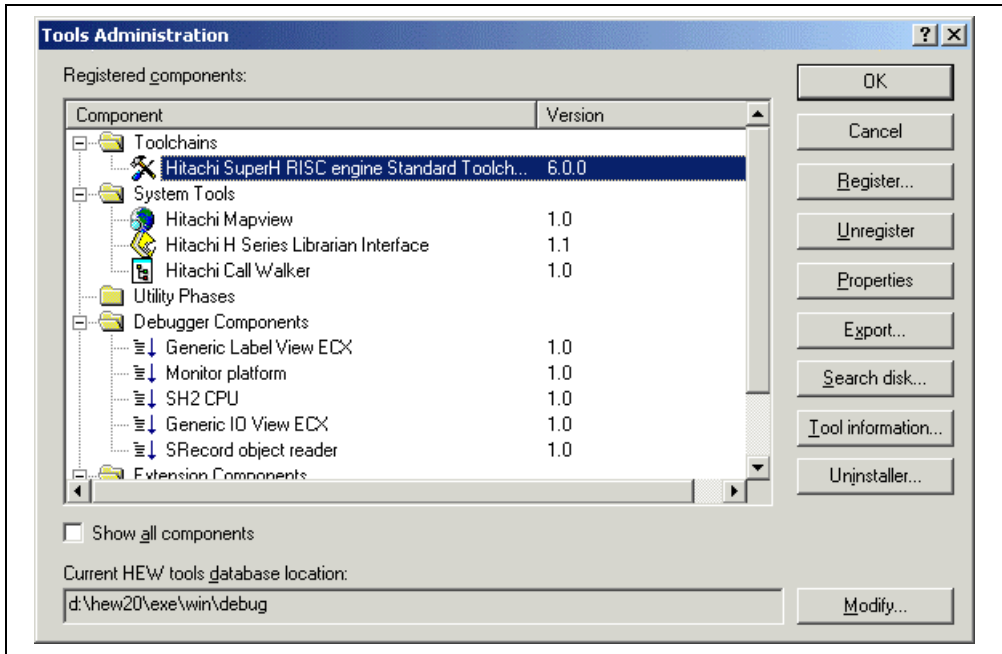
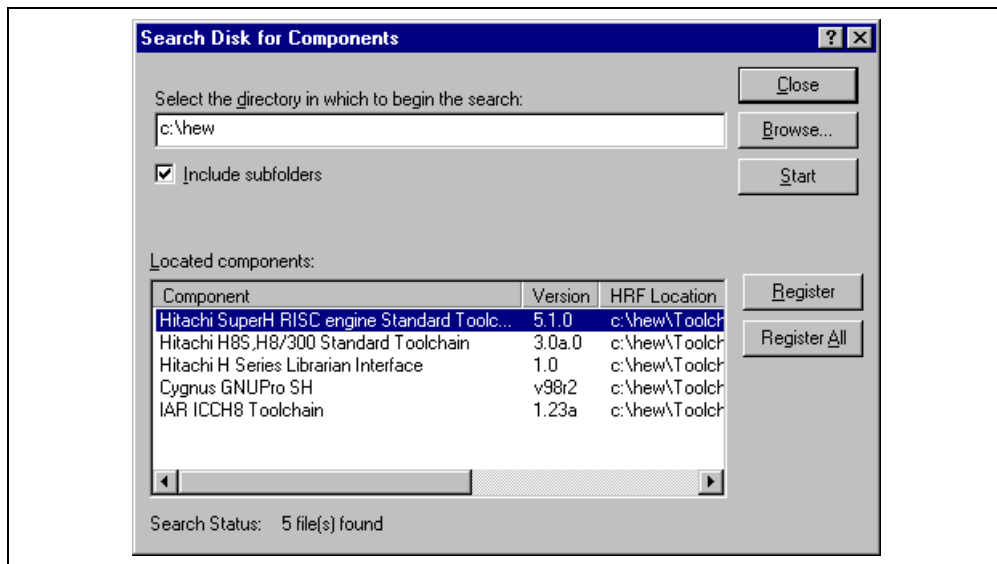

Figure 5.1: Tools Administration Dialog (Example)
Figure 5.3: Search Disk for Components Dialog
You control the components, which can be used by the Hitachi Embedded Workshop via the “Tools Administration” dialog \[* MERGEFORMAT (figure 5.1), which is invoked via [Tools->Administration...]. Modification of the “Tools Administration” dialog box is only possible when no workspace is open, while only reference is possible when a workspace is open.
In order to use a component with HEW it must first be registered. The “Tools Administration” dialog * MERGEFORMAT (figure 5.1) shows all currently registered components. To access it, ensure no workspaces are open and then select [**Tools** ->**Administration...**]. If you attempt to access tools administration when there is a workspace open the tools administration dialog is opened but cannot be modified. When HEW is installed by default any new tools are automatically registered.
1. Click the “Search Disk...” button on the “Tools Administration” dialog * MERGEFORMAT (figure 5.1). The “Search Disk for Components” dialog will be displayed * MERGEFORMAT (figure 5.3).